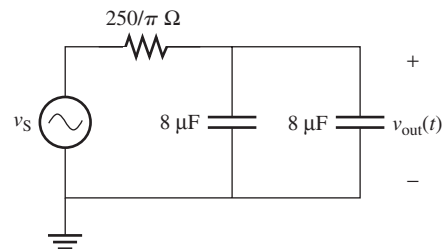

FIGURE P7.46 Circuit for Problem 7.46.
- 7.46** (A)* Determine the transfer function for the circuit in Figure P7.46. Then, use MATLAB to plot the Bode plot for the circuit.